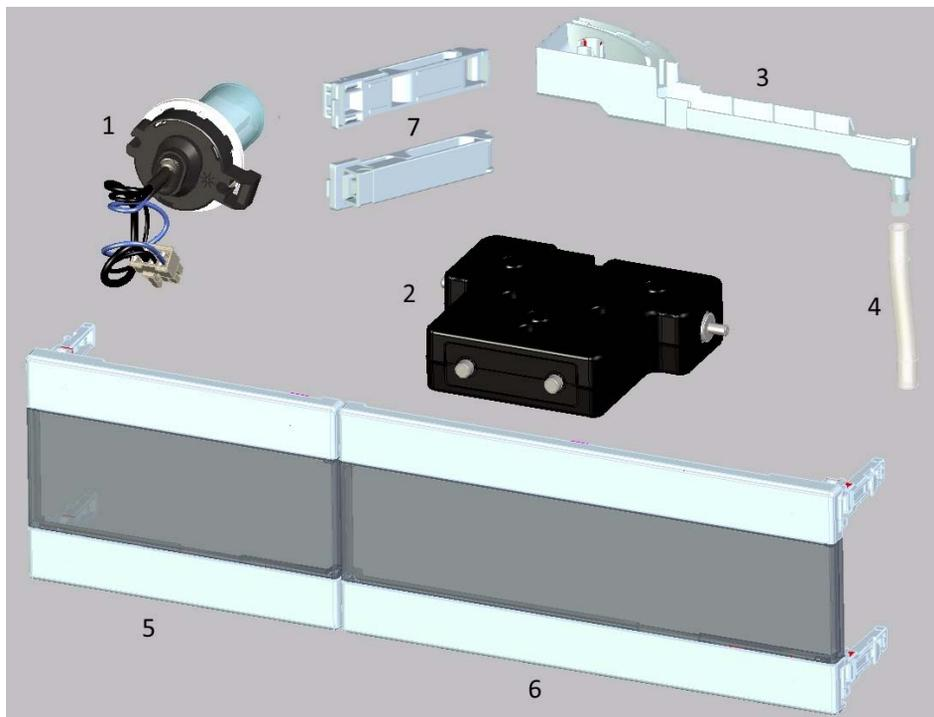

Figure 49 Overview of maintenance parts
5063-6527	Tubing assembly, i.d. 6 mm, o.d. 9 mm, 1.2 m (to waste) see item 4 in Figure 49 on page 174
5043-1013	Tubing Clip see item 7 in Figure 49 on page 174